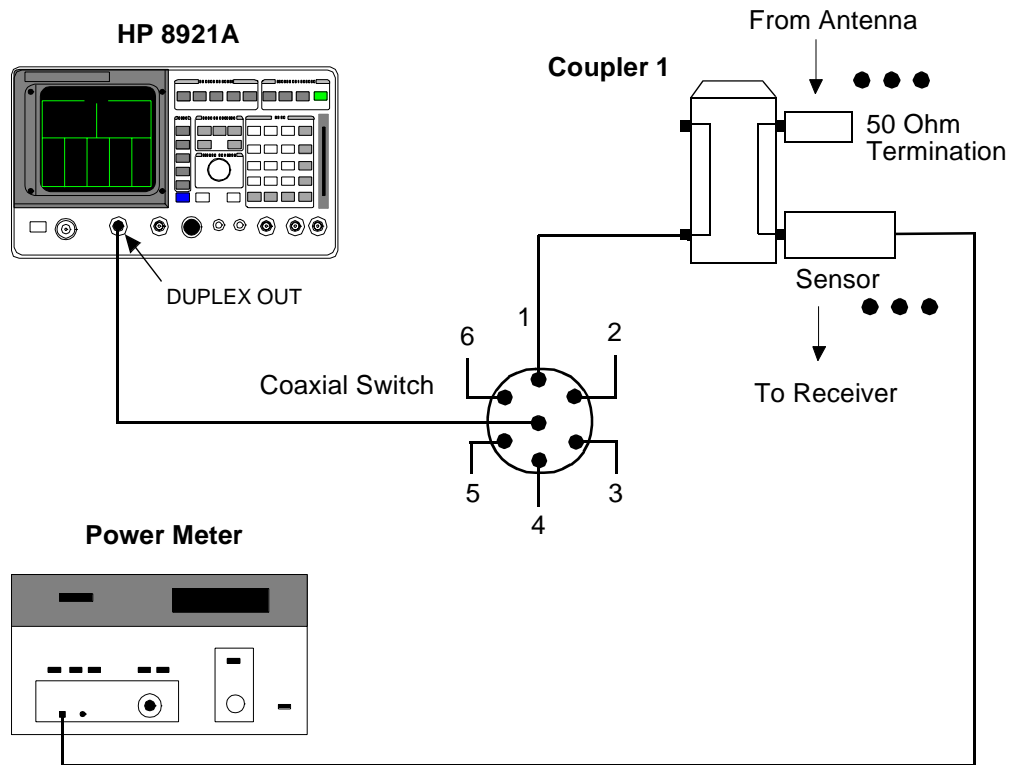

Figure 11
- See *figure 11* . Connect the Test Set DUPLEX OUT to the common port of the RX antenna switch. Terminate the RF coupler port leading to the antenna. Connect the power meter sensor to the RF coupler port that normally attaches to the receiver input.